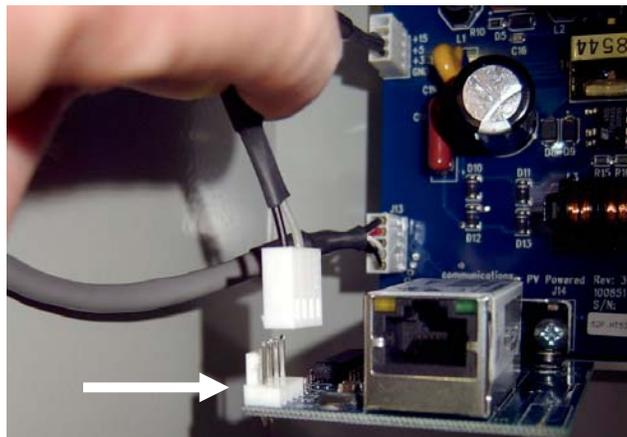

Figure 5
7. Plug the other end of the power cable into the J3 connector of the PVM1010 circuit board (Figure 5).